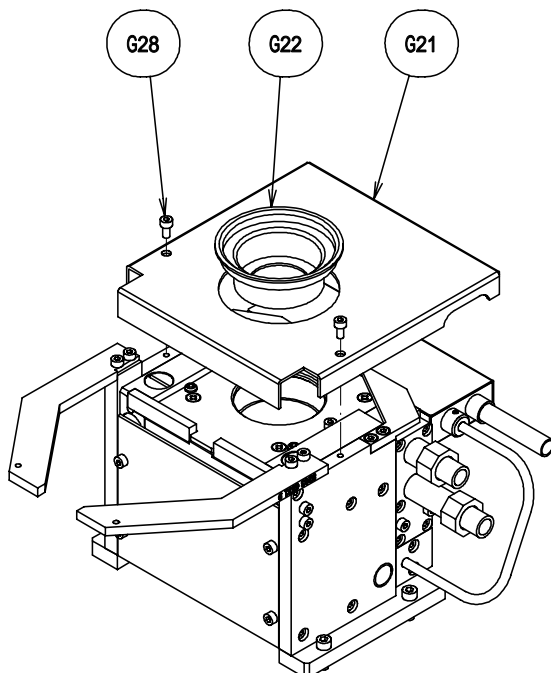

Fig.18
1. Remove the covers (G22, G21) (Fig. 18).